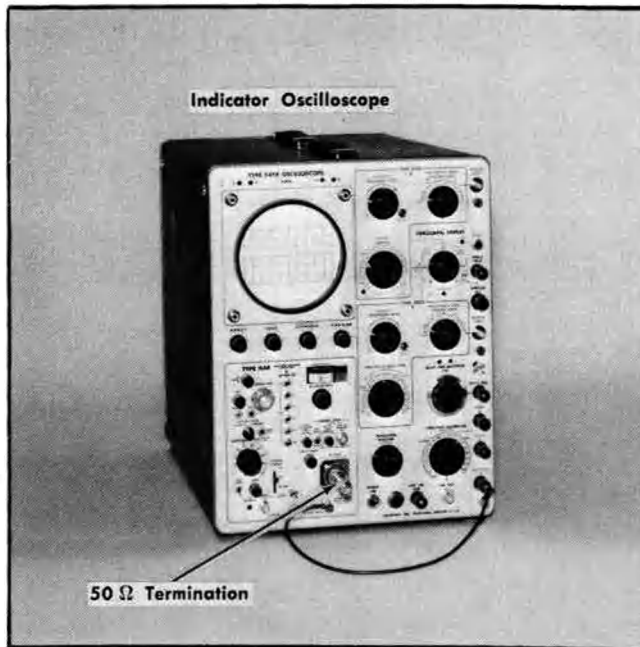

Fig. 5-26. Equipment setup to check internal spurious signal response.
a. Equipment setup is shown in Fig 5-26.